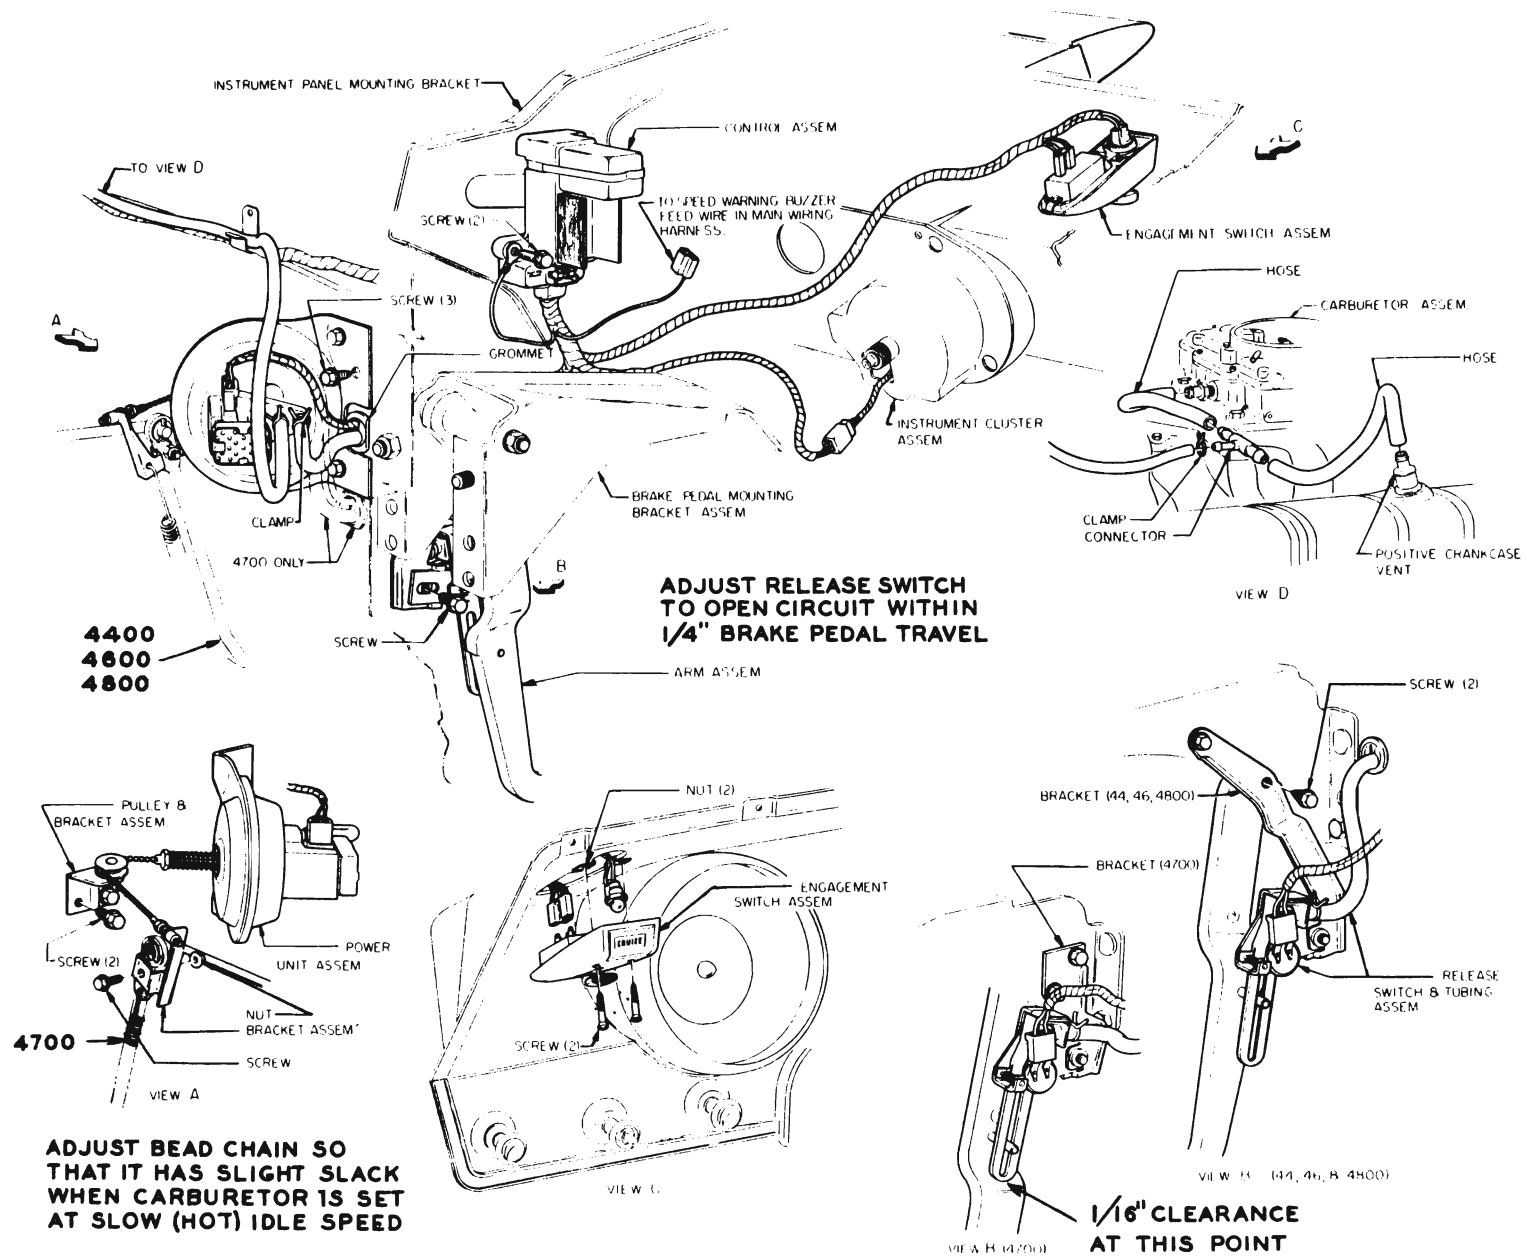

Figure 11-188—Electro-Cruise Installation
1. Disconnect bead chain by snapping off from thread stud on throttle rod bracket. See Figure 11-188.
4. There should be a slight amount of slack in bead chain. If chain is too loose or too tight, loosen jam nut on threaded stud on throttle rod bracket and rotate stud until chain is just taut. Then, back off stud two (2) full turns. See Figure 11-188.
IMPORTANT: Check all vacuum hoses for proper attachment at vacuum source, power unit and brake release switch. See Figure 11-188.